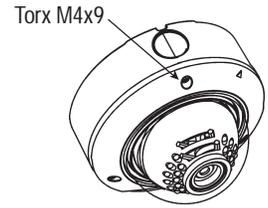

Figure 1 - Surface Mount
- A. If surface mounting, see figure 1.